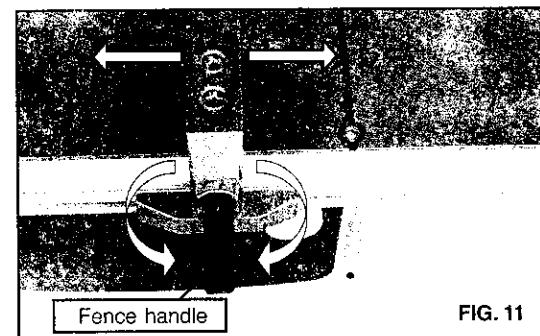

FIG. 11
- Turn the fence handle clockwise to increase clamping pressure, counterclockwise to decrease clamping pressure.(See Fig. 11)
- After counterclockwise turning the fence handle, sliding the rip fence to the desired position on the guide rail.(See Fig. 11)